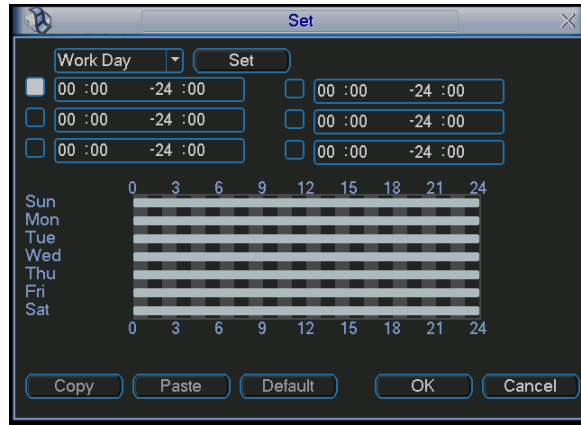
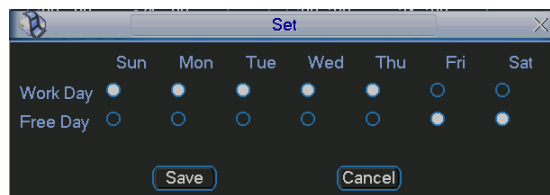

Figure 4-64
Figure 4-65
- Period: Click set button, you can see an interface is shown as in Figure 4-64. Here you can set for business day and non-business day. In Figure 4-64 click set button, you can see an interface is shown as in Figure 4-65. Here you can set your own setup for business day and non-business day.